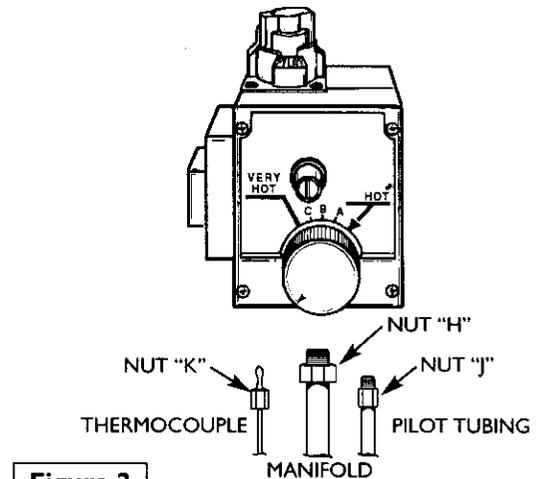
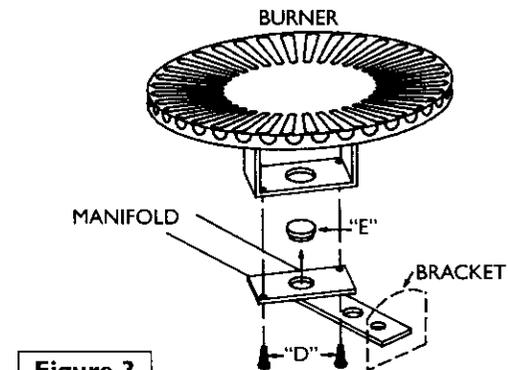

Figure 2
Figure 3
- Step 3. Remove burner assembly from water heater and control by loosening $\frac{3}{4}$ ” nut “H” holding burner assembly to control. (See Figure 2, page 17). Loosen pilot tube nut “J” and thermocouple nut “K” at control.
- Step 4. Remove screws “D” disengaging manifold from burner. (See Figure 3, page 17)
- Step 5. Remove orifice “E” (See Figure 3, page 17) using $\frac{3}{8}$ ” wrench. Install orifice marked “L.P.” found in the bag into manifold. Tighten securely. Secure burner to manifold with screws “D”.
- Step 7. Make sure all connections are tightened securely, and reinstall burner assembly into water heater. Position end of the manifold inside bracket as shown in Figure 3 on page 17. Reinstall manifold into control and tighten $\frac{3}{4}$ ” nut (“H”) securely. Recheck to see that end of manifold is still inside bracket as shown in Figure 3 on page 17. Reinstall pilot tubing and thermocouple into control. (See Figure 2, page 17)
- Step 14. Push in control knob all the way and hold down. Immediately light the pilot with a match. Continue to hold control knob in for about one (1) minute after the pilot is lit. Release knob and it will pop back up. Pilot should remain lit. If it goes out, repeat steps 9 through 12.
- Step 15. Check for gas leaks with only pilot flame burning using a soapy water solution, not a match or open flame. Check for gas leaks at fittings “F” and “G” (See Figure 4, page 17) and at fitting “J” (See Figure 2, page 17).
- Step 19. With a soapy water solution, not a match or open flame, check for gas leaks at gas connection “H”. (See Figure 2, page 17). If gas leak occurs, turn off immediately by shutting off gas cock at inlet to control, or by turning gas control knob (↻) to “PILOT” pushing down and turning to “OFF”. Repair gas leak as necessary, and repeat steps 9 through 19.